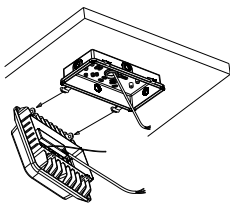

Figure 2-5
- 5.Insert the mounting hole of radiator horizontally on the shaft of driver cover; Figure 2-5